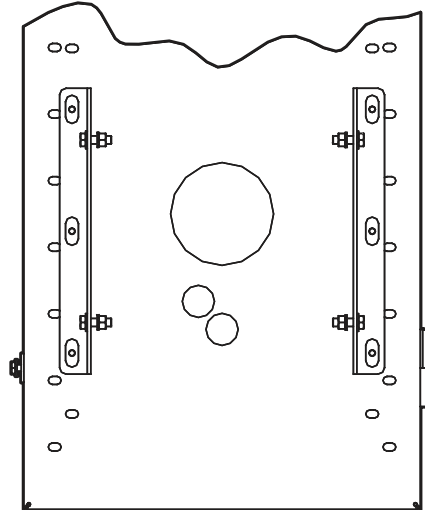

Figure 14 – Mounting Brackets in Position B
2. Using the hardware provided, assemble the two brackets to the back cover as shown in Figure 14. Note that the brackets are mounted so that the angles of the brackets are mounted to the inside. Do not fully tighten these bolts.